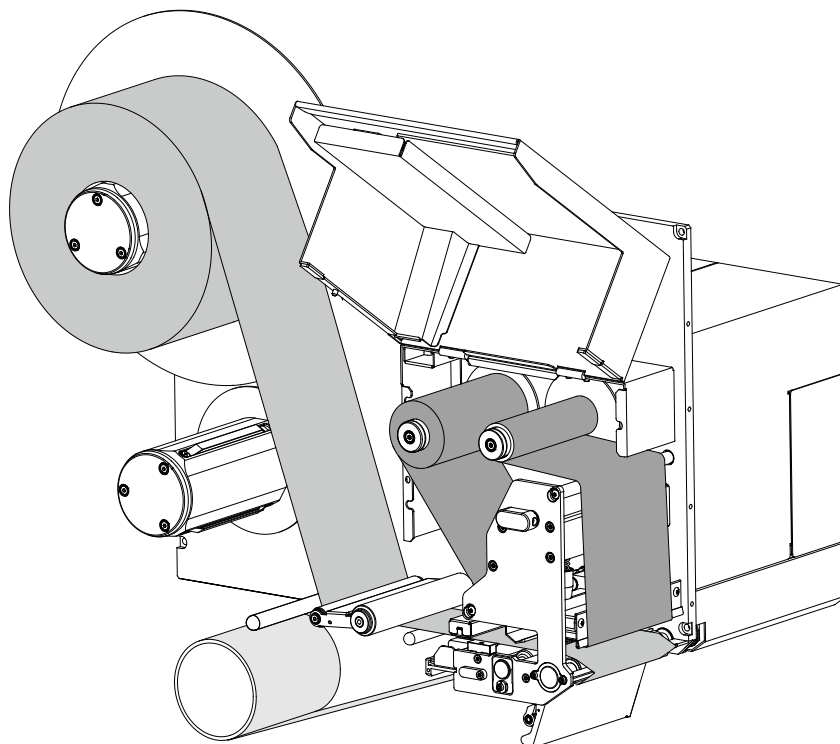

Figure 2-28 Thread the Liner
9. Refer to the Liner Path as shown in Figure 2-10. Thread the liner in between the Peeling Roller and Pinch Roller Assembly, then wrap it around a spare core to form a Liner Take-up Roll. As shown in Figure 2-28.